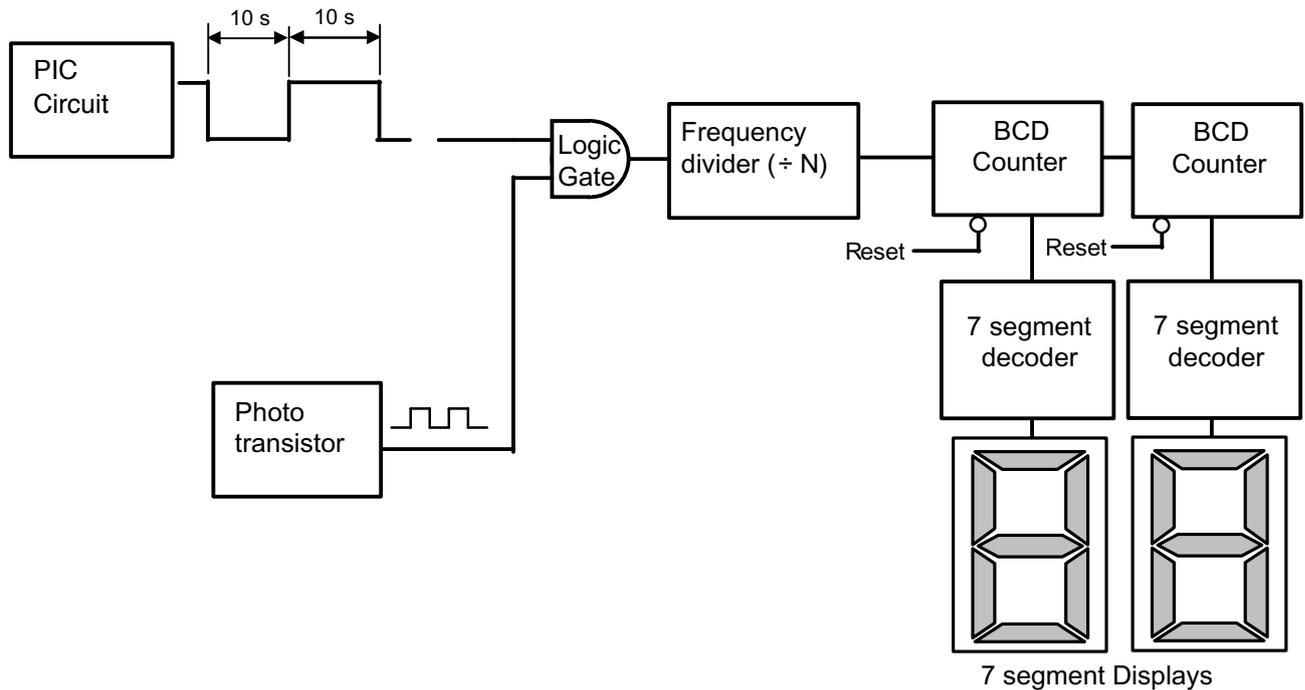

Fig. 1(b)
- (i) Explain the purpose of the logic gate in **Fig. 1(b)**. [2]